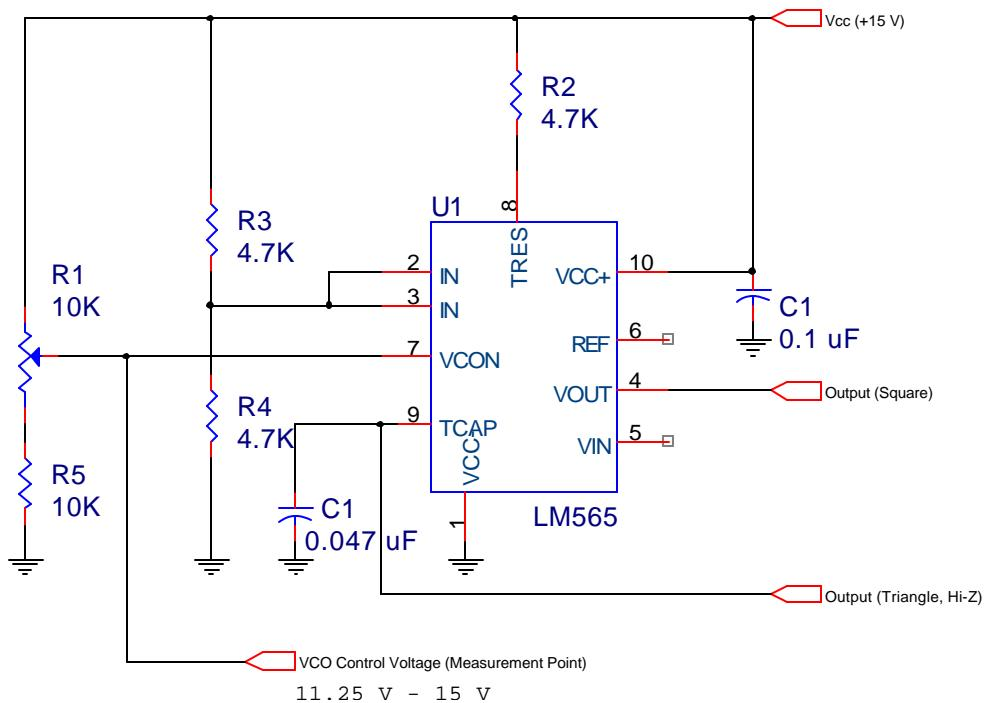

Figure 2: LM565 VCO with Variable Control Voltage
In Figure 2, the timing resistance R_t is equal to R2, and is constant. A potentiometer has been substituted in R1's place, allowing the control voltage to be varied over a range of approximately 7.5 V to 15 V. Note that the control voltage should be adjusted to be in the range 11.25 V to 15 V in part two of this experiment.
8. Modify your circuit so that it matches Figure 2.